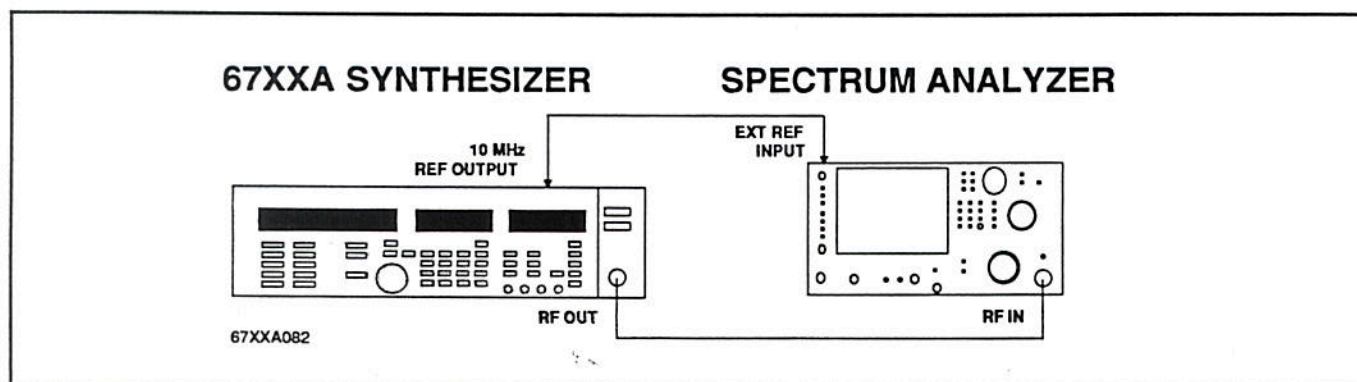

Figure 2-4. Equipment Setup for Narrow Band Spurious Tests
1. Connect the equipment as shown in Figure 2-4.